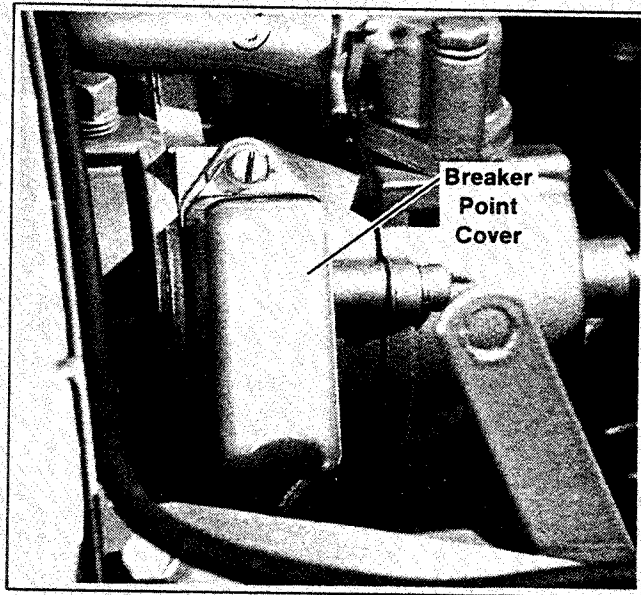

Figure 3-3. Breaker Point Cover
2. Remove the breaker point cover. See Figure 3-3.